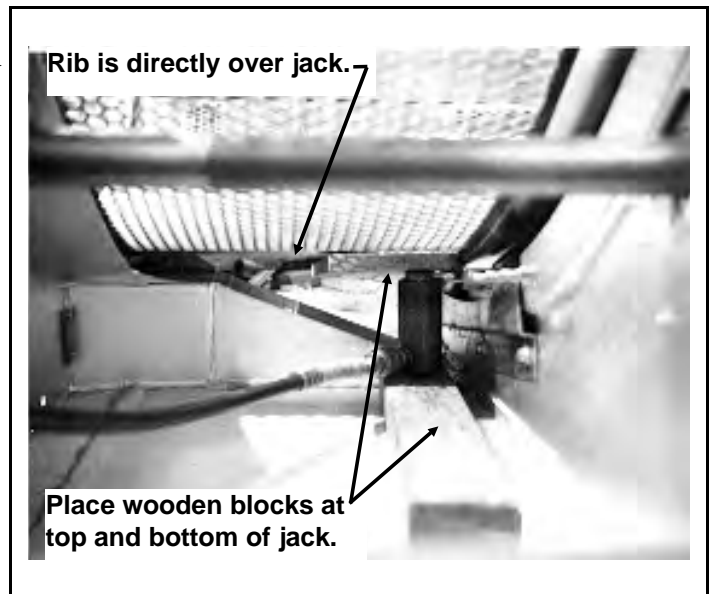

FIGURE 2 (MSSM0115AE)
3. To service drive components, the basket must be raised off the support rollers using wooden blocks above and below the jack. Position a jack under the basket as shown in FIGURE 2, then carefully jack the basket up until it is off the rollers.